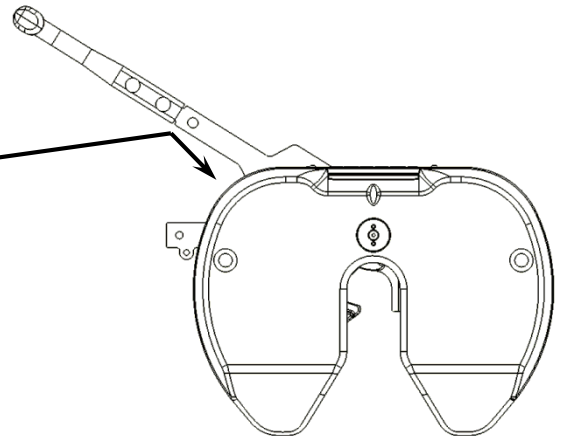

FIG. 12
- 3) Remove bail pin and move handle to unhitching position (pg. 4, fig. 12) by pulling out and rotating towards handle towards cab.\*